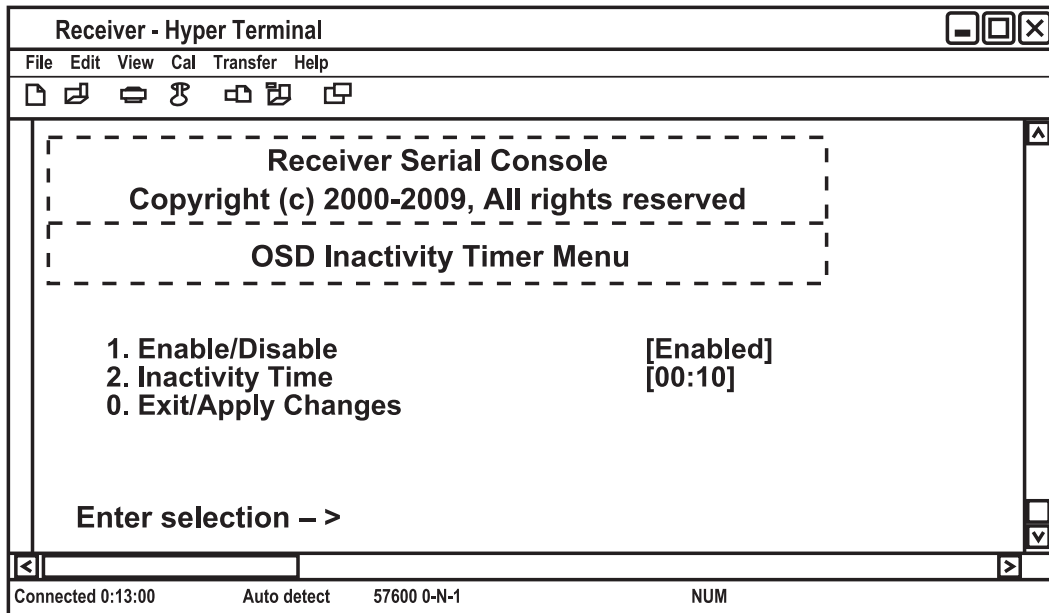

Figure 4-37. OSD Inactivity Timer Menu.
2. Press “2” to access the OSD Inactivity Timer and press “Enter.” The menu in Figure 4-37 appears.